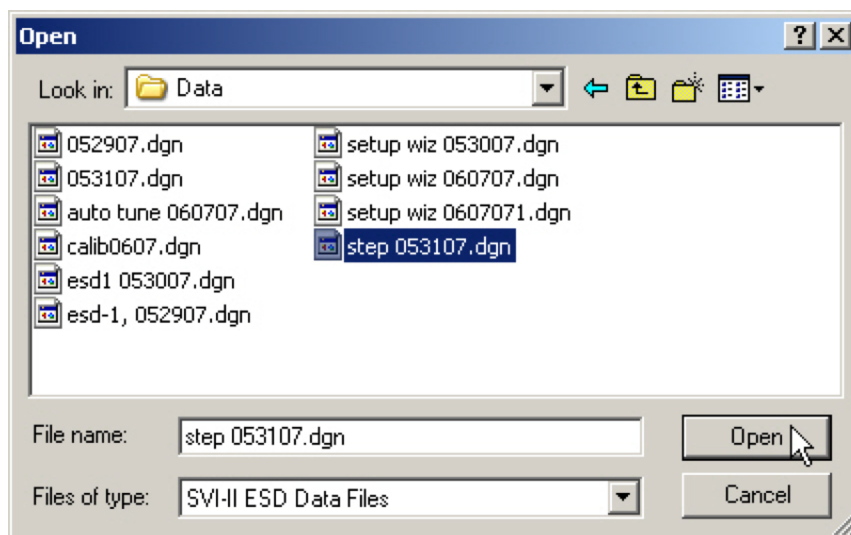

Figure 189 - Opening File for Additional Curve
4. Using the browser, locate the file to load and click **Open** (*Figure 189*).